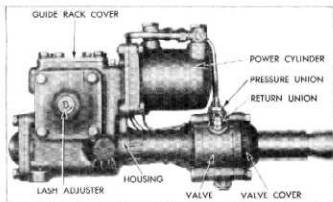

Fig. 30—Power Steering Assembly
- Remove the two valve to power cylinder pipes. Unless the "O" ring seals are to be replaced, do not loosen the elbow fittings or the pressure or return line unions (fig. 30).